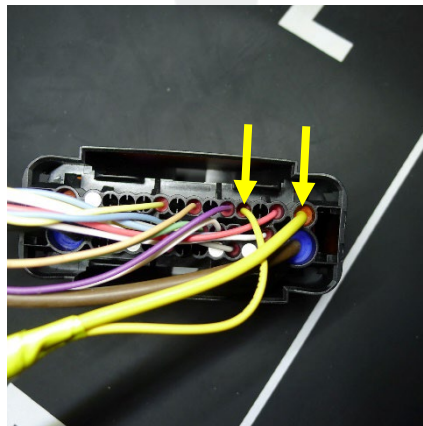

Figure 21
19. Perform a Push-Pull-Push check on each wire to make sure the wires are secure in the connector (Figure 21).